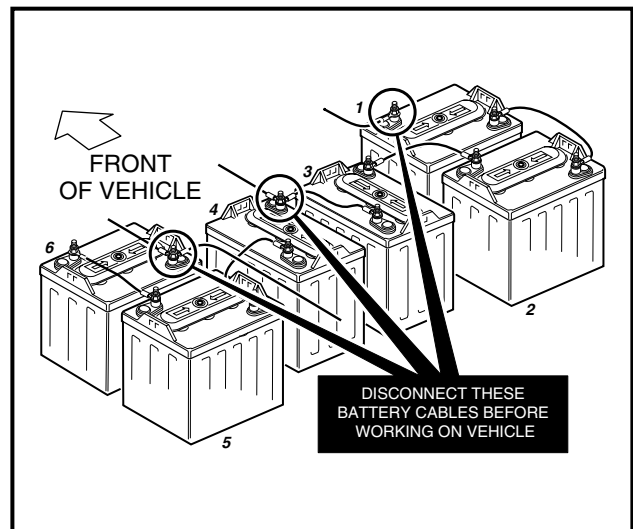
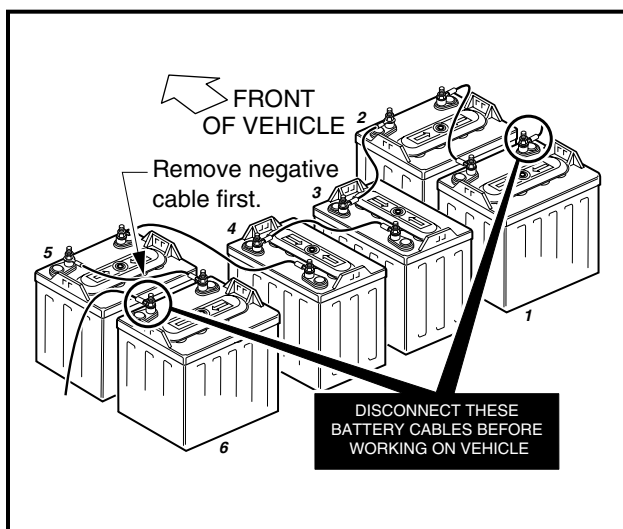
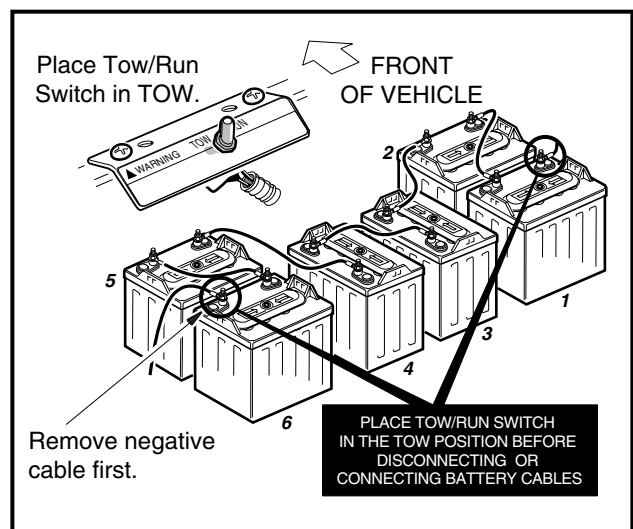

Figure 2 V-Glide 36-Volt Vehicle
Figure 3 PowerDrive System 48 Vehicle
Figure 4 IQ System Vehicle
- To avoid unintentionally starting the vehicle, disconnect the batteries as shown (Figure 2, Figure 3, or Figure 4).